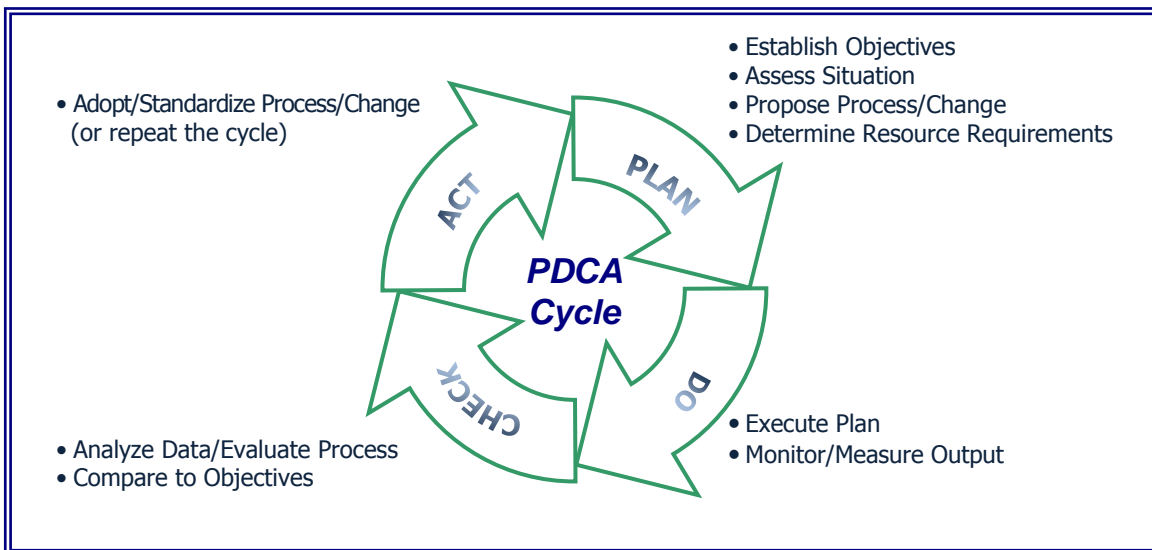

Figure 1
8.1.3 The QMS is based on a process approach to quality management and JPMC applies continuous process improvement methodology, i.e. the Plan-Do-Check-Act Cycle (Figure 1), to ensure its ongoing effectiveness.